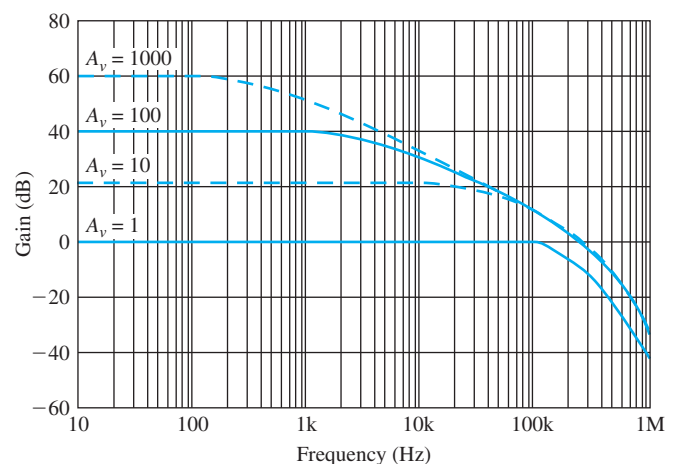

FIGURE 6
**Gain versus Frequency** The graph in Figure 6 shows the gain versus frequency for gains of 1, 10, 100, and 1000. As you can see, the bandwidth decreases as the gain increases.
Calculate the voltage gain and determine the bandwidth using the graph in Figure 6 for the instrumentation amplifier in Figure 7.
From the graph in Figure 6, the approximate bandwidth is